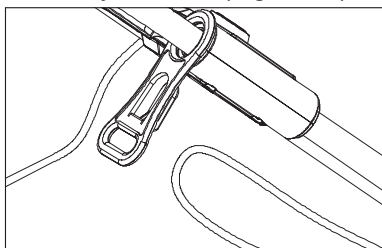

Fig. 6
1. Double the extension cord back, about 30 cm from the end and lead the loop through the cord strain relieve (15) and hang the loop over the hook. Gently tug on the cord to ensure that it is firmly secured (Figs. 6, 7).